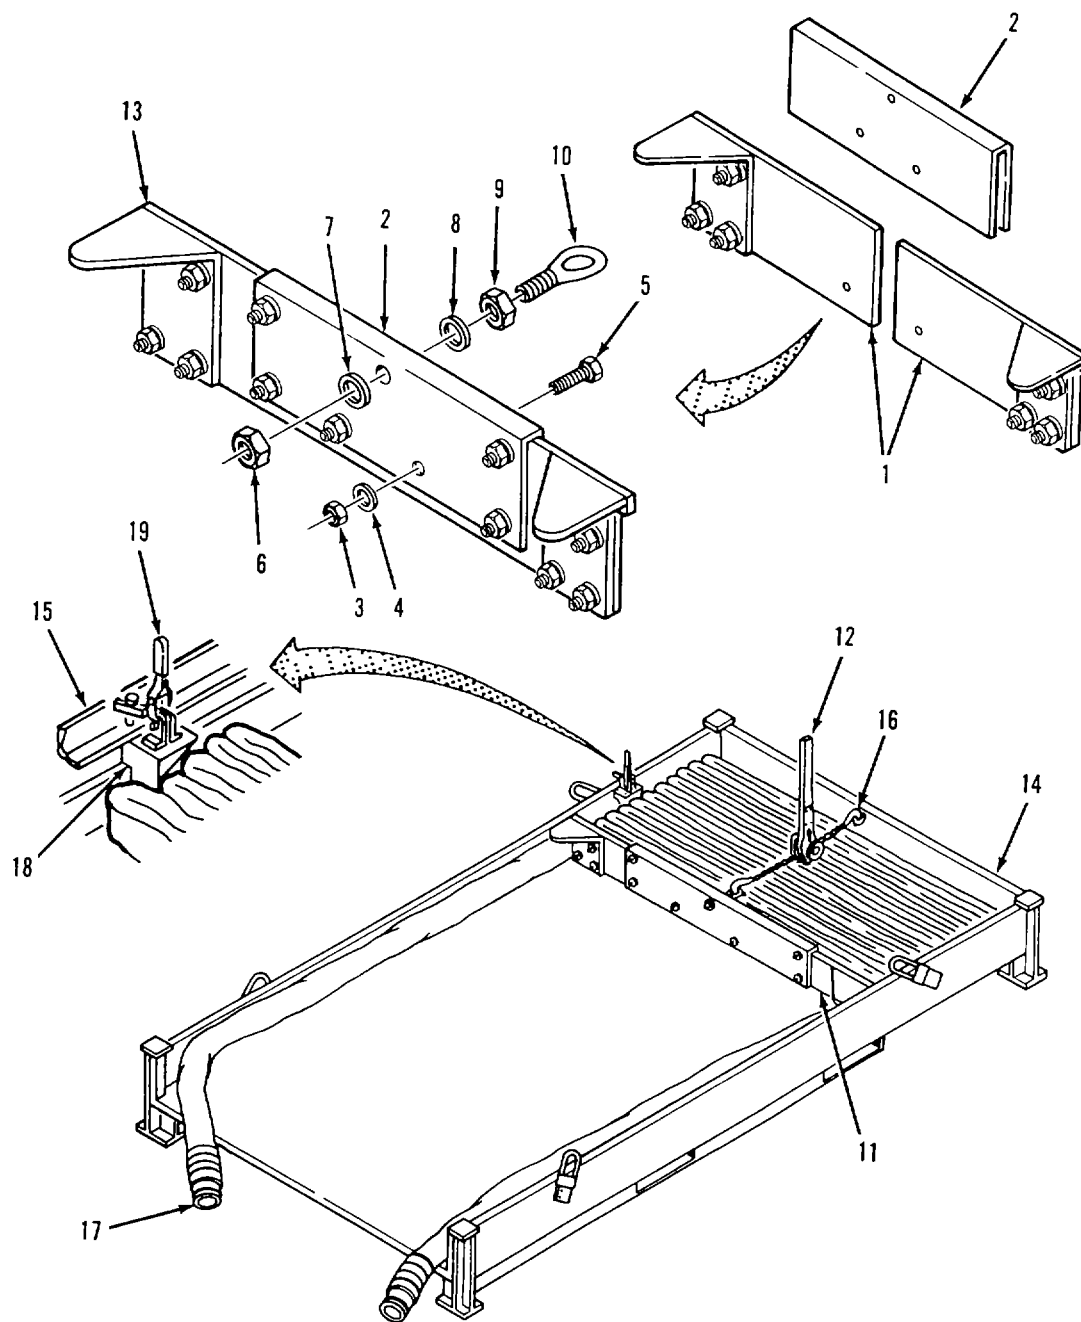

Figure 2-38. Assemble Pullboard and Compress Hose.
*Assemble Pullboard. Refer to figure 2-38.*
- (11) Aline pullboard halves (1) as shown.
- (12) Slide coupling sleeve (2) over the top of pullboard halves (1) and aline mounting holes.
- (13) Install two screws (5), flat washers (4) and self locking nuts (3) through coupling sleeve (2).
- (14) Install nut (9) and flat washer (8) on eyebolt (10). Screw nut all the way onto eyebolt.
- (15) Install eyebolt (10) and attached parts into coupling sleeve (2). Make sure eyebolt is on opposite side of flanges (13).
- (16) Install flat washer (7) and nut (6) on eyebolt (10).
*Compressing Hose. Refer to figure 2-38.*
- (17) Place assembled pullboard (11) in flaking box (14) with flanges (13 ) pointing to rear of box and eyebolt (10) pointing to front of box. Flanges (13) must fit under metal rim (15) on left and right sides of box.
- (18) Connect hoist (12) to eyebolt (16) on front wall offlaking box (14) and eyebolt (10) on pullboard (11).
- (19) Operate handle on hoist (12). As pullboard (11) is drawn to front of flaking box (14), hose (17) will begin to compress.
- (20) When hose (17) is tightly compressed, press retaining brackets (18) between folds in hose, about two folds in front of pullboard (11). Brackets must be positioned under metal rims (15) on left and right sides of flaking box (14).
- (21) Push up on toggle levers (19) and lock brackets (18) against metal rims (15).
- (22) Release tension on hoist (12) and remove pullboard (11) from flaking box (14).
- (23) Continue to fold hose (17) in a right-to-left/left-to-right pattern until about 150 feet of hose has been folded.
- (24) Repeat steps (17), (18) and (19) to compress hose (17).
- (25) Push down on toggle levers (19) and remove two retaining brackets (18).
- (26) Slide retaining brackets (18) down between folds in hose (17). Brackets should be positioned about two folds in front of pullboard (11), and under metal rims (15) on left and right sides of flaking box (14).